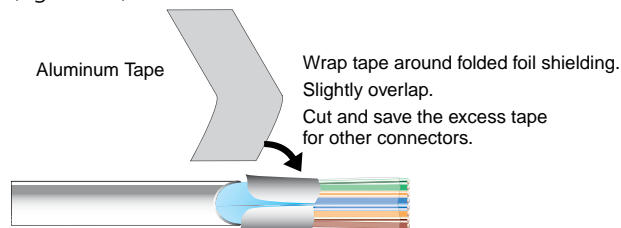

Figure 23. Wrapping the Shielded Tape
3. Peel the backing off the self-adhesive shielded aluminum tape and wrap it around the folded-over cable shielding, **slightly overlapping** the beginning of the tape (figure 23).